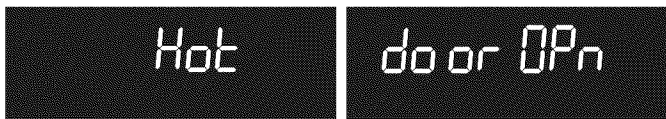

Figure 20: Hot oven door locked (L) door open message (R).
1. CLn message will turn off and Hot will appear in display window (Figure 20).
2. If Self Clean has heated the oven to a high temperature, allow enough time for the oven to cool and the door OPn message to appear (Figure 20). When this message turns off the oven may be opened.